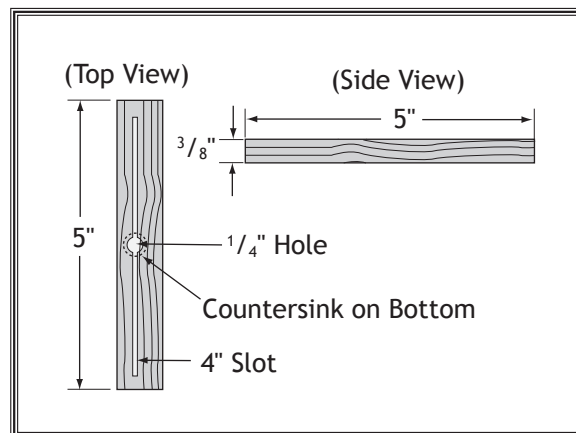

Figure 65. Patterns for featherboard miter bar.
5. Cut a miter bar that will fit in the table miter slot approximately 5" long (see **Figure 65**).